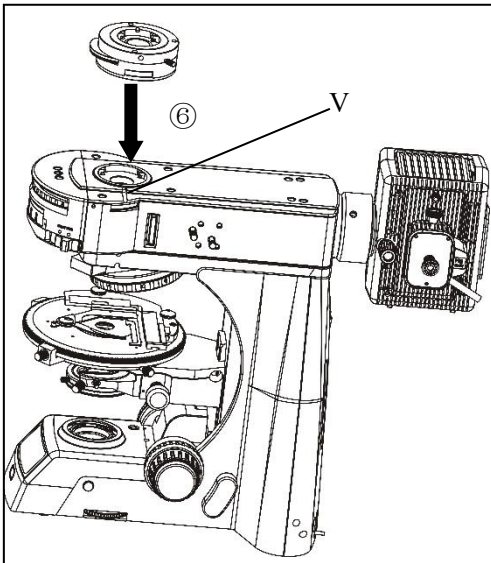

Figure 8
**4-2-6 Install Bertrand lens set (Figure 8)**
Load the Bourbon mirror into the head of the microscope body or the gold phase device in accordance with the medium sequence number ⑥ in Figure 8, transfer to the appropriate position and tighten the screw (At V. in figure 8) with a hex wrench to secure it.